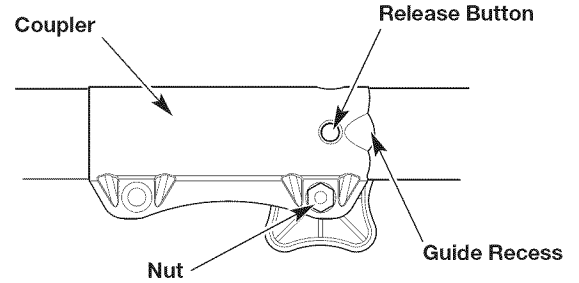

Fig. 5
NOTE: Aligning the release button with the guide recess will help installation (Fig. 5).
NOTE: Do not tighten the nut (Fig. 5).
2. Press and hold the release button (Fig. 5).